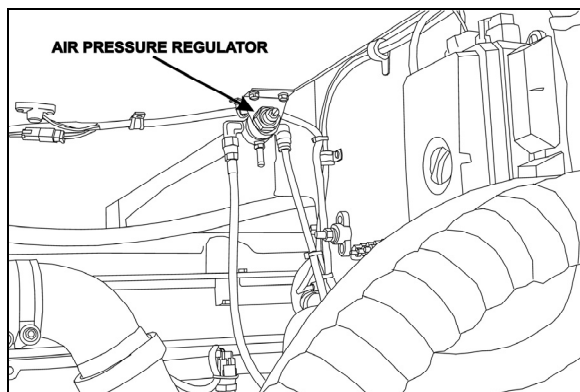

FIGURE 13: AIR PRESSURE REGULATOR (TYPICAL) 07037
20. Adjust the retarder pressure to  $80 \pm 3$  psi with the air pressure regulator. For more information refer to Section 12, "BRAKE AND AIR SYSTEM", under heading "AIR PRESSURE REGULATOR". The air pressure regulator is located in the engine compartment, above the rear junction box (Fig. 13).